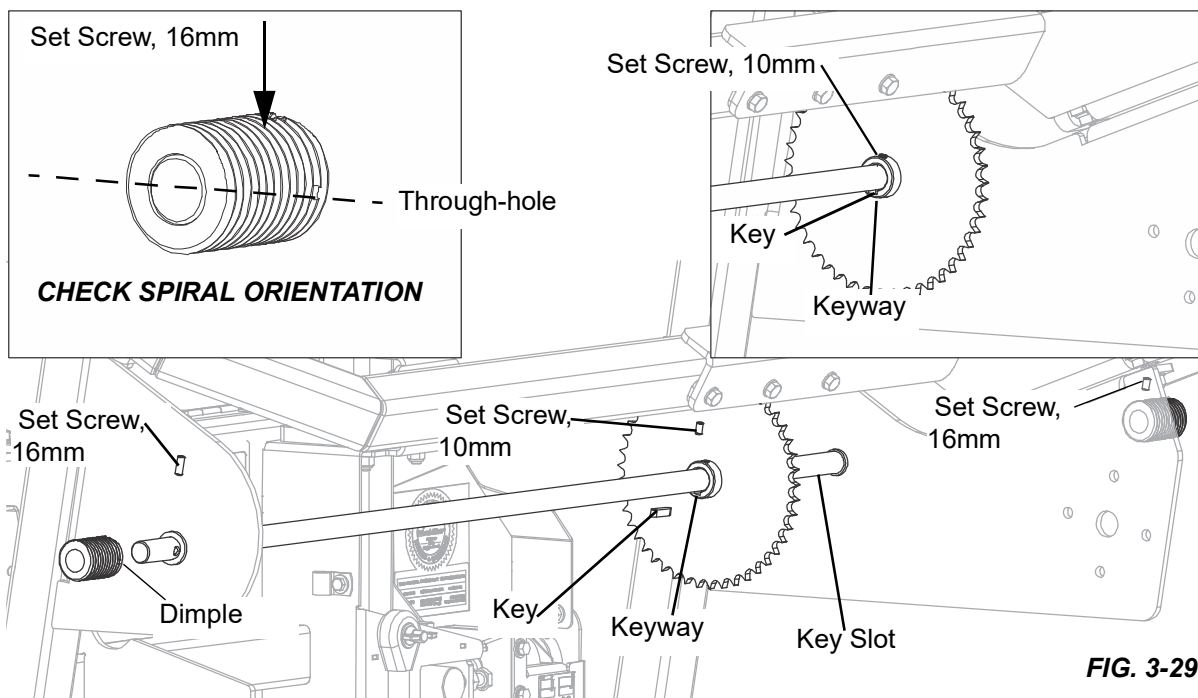

FIG. 3-29
3. Slide the large sprocket onto the shaft. See Fig. 3-29.
1. Align the key in the slot in the shaft. See Fig. 3-29.
3. Tighten the sprocket set screw. (See inset of Fig. 3-29.)